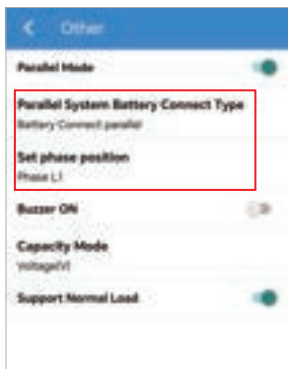

Figure 4-8 Inverter N1-Phase L1
2. Go to Console > Hybrid Setting > Other to enable parallel mode, select the correct battery connection type, and set the phase position accordingly, as shown in *Figure 4-8&4-9*. Notice that all three inverters should be set in this step.